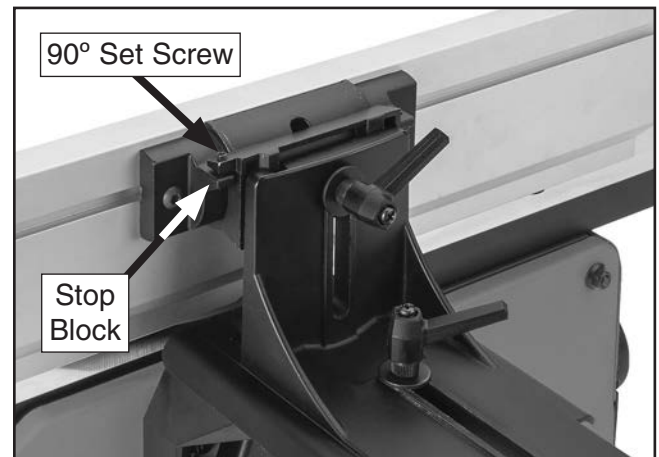

Figure 55. Location of 90° fence angle adjustment components.
5. Adjust fence until it is flush against combination square, then tighten 90° set screw on fence slide bracket until it contacts stop block (see **Figure 55**).